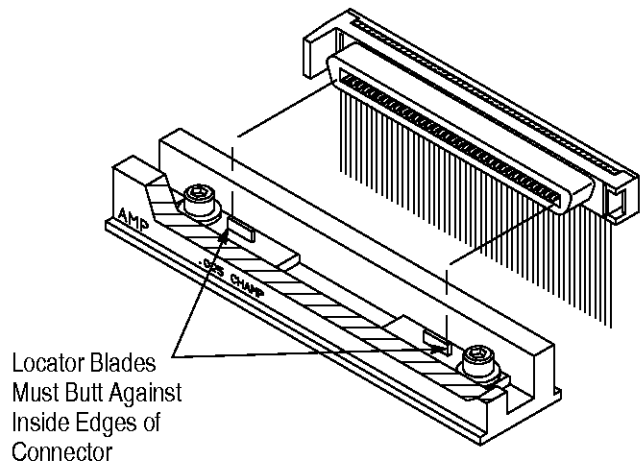

Figure 3
2. Place the connector onto the locators and between the socket head cap screws. Slide the locators apart until the blades butt against the inside edges of the connector. Secure the locators by fully tightening the screws. The connector must fit securely over the blades. See Figure 3.